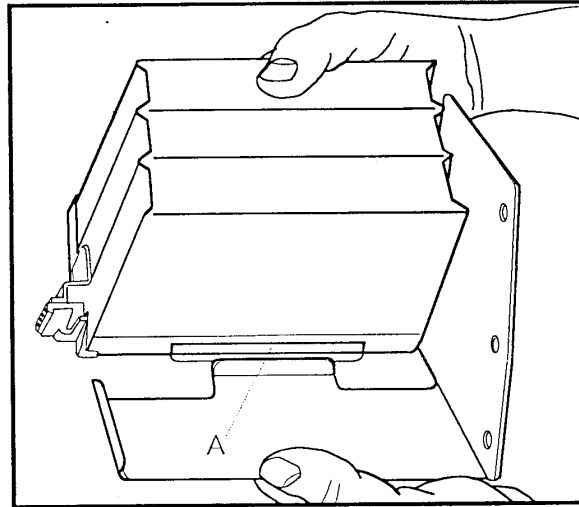

Figure 7-2. Fitting the Battery Holder Tab Into the Battery Slot.
1. Install the battery in the battery holder. Make sure the tab on the holder fits into the slot on the battery as shown in Figure 7-2.